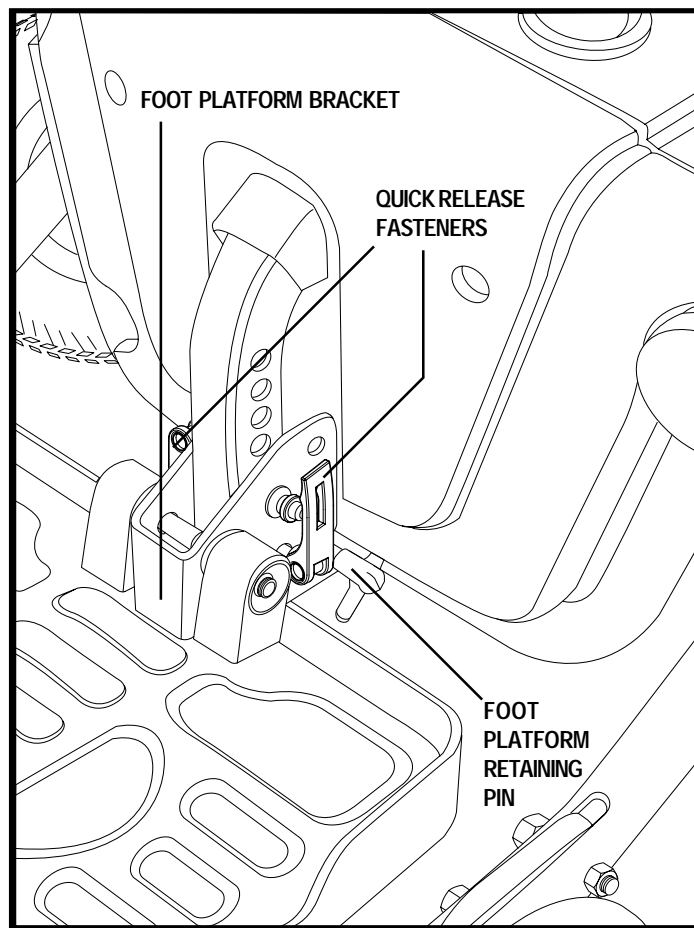
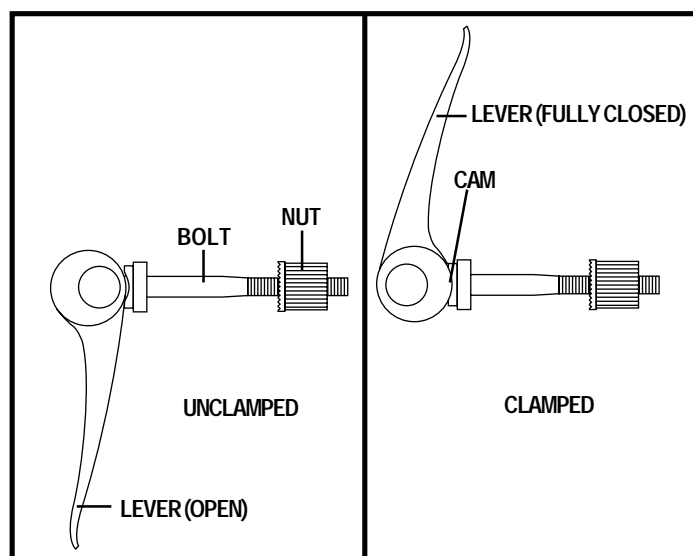

Figure 18. Foot Platform Adjustment
Figure 19. Quick Release Fastener Operation
1. Remove the quick release fasteners from the foot platform bracket. See figure 18.
**Quick Release Fasteners:** The foot platform is attached to the power base with two quick release fasteners. See figure 18. Each quick release fastener consists of a bolt, a lever, and a nut. See figure 19. The lever has a cam on the end that allows it to clamp into place. The quick release fastener has two states: clamped and unclamped. When the lever is open, the quick release fastener is unclamped. When the lever is closed, the quick release fastener is clamped.